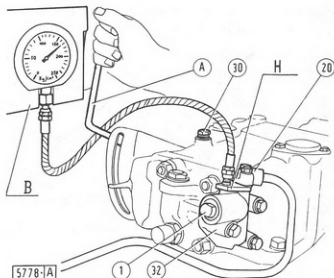

Fig. 224 - Checking Relief Valve Setting
- Insert connector No. **291326** (H) between inlet (20, Fig. 224) and carrier (32), and connect to pressure gauge (0 to 250 kg/cm² or 0 to 3,555 p.s.i. range) of kit No. **291314**.
- Move control lever (A) fully upwards, and slowly slacken screw (30) until relief valve (1) cracks off.